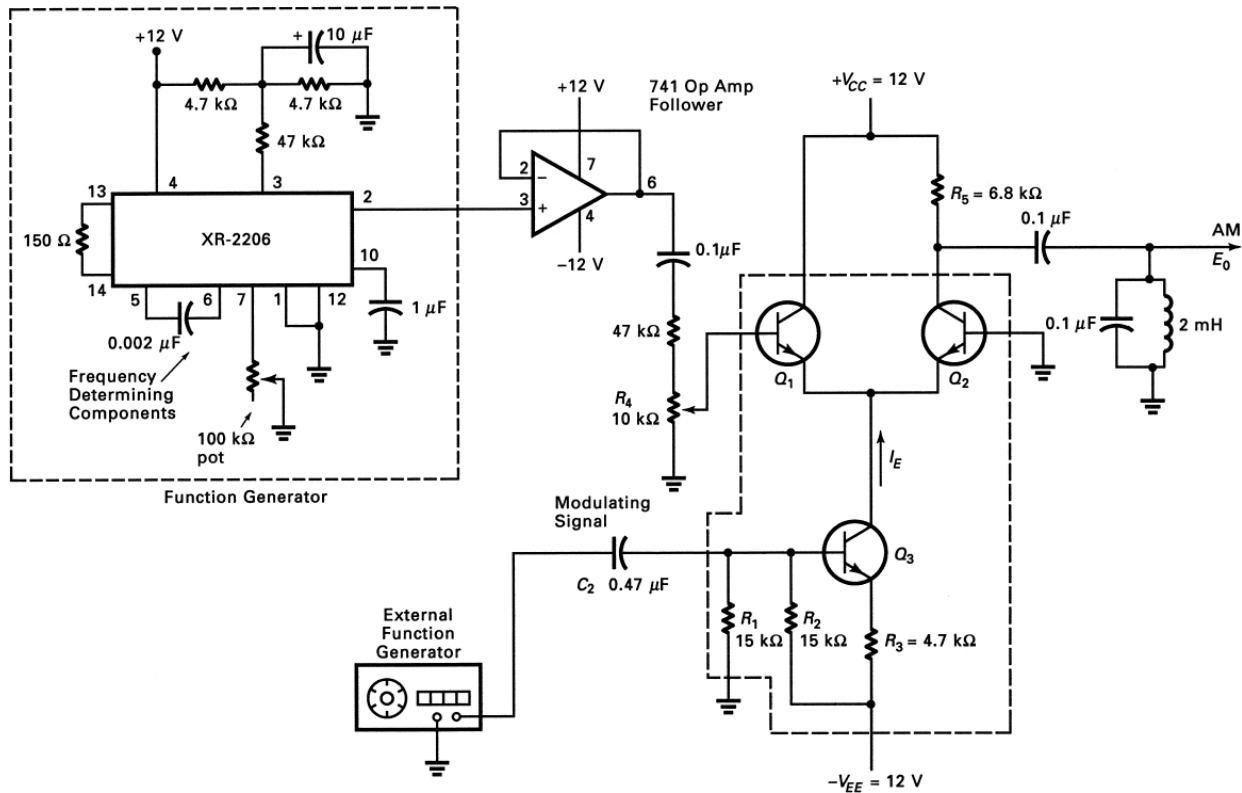

Fig. 4-7 AM with a differential amplifier.
1. Wire the differential amplifier amplitude modulator circuit shown in Fig. 4-7. Q_1 – Q_3 can be any common NPN transistor. The carrier is supplied by the 2206 function generator, and the modulating signal is supplied by an external function generator. Initially, do not connect the 0.1- μ F capacitor and the tuned circuit to the collector of Q_3 .
4. Connect the 0.1- μ F capacitor and tuned circuit to the collector of Q_3 as Fig. 4-7 shows.
6. Given the values in Fig. 4-7, calculate the resonant frequency f_r . Measure the carrier frequency with a frequency counter.
5. Assuming I_e is constant, what component in Fig. 4-7 would you change to increase the gain of the circuit?